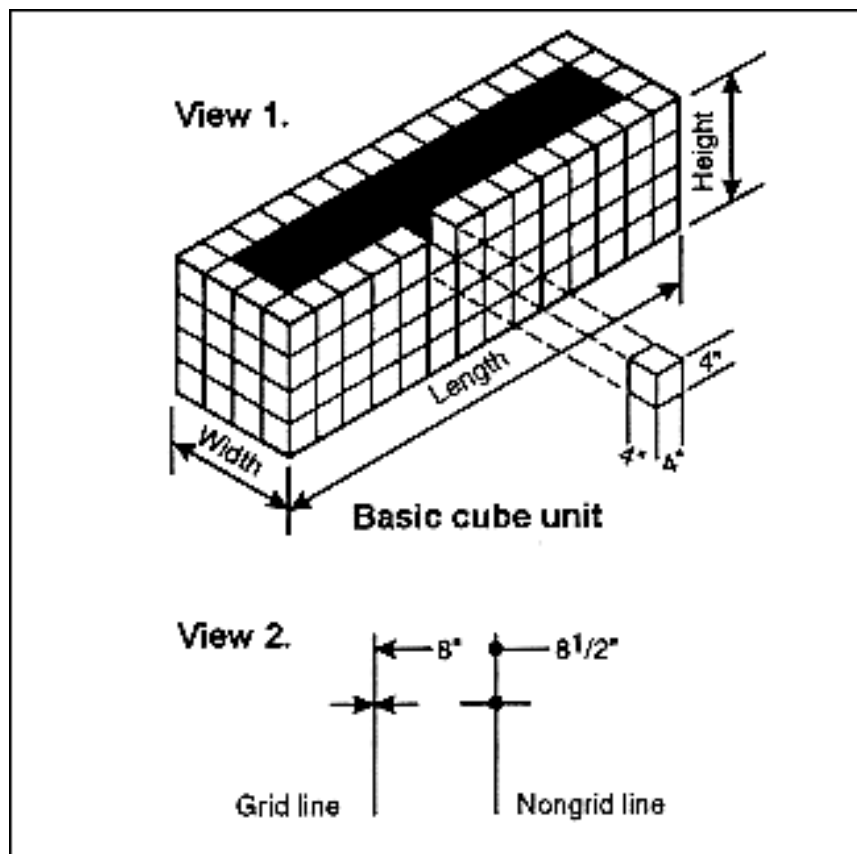

Figure 8-2. Elements of modular design
8-13. *Modular coordination* is when the design of a building, its components, and the building-material units all conform to a dimensional standard based on a modular system. *Modular measure* is the system of dimensional standards for buildings and building components that permit field assembly without cutting. The basic unit is a 4-inch cube that allows a building to be laid around a continuous three-dimensional rectangular grid having 4-inch spacing. The modular system of coordinated drawings is based on a standard 4-inch grid placed on the width, length, and height of a building, as shown in Figure 8-2.
Step 3. Show materials actual size, or to scale, and locate them on or related to a grid line by reference dimensions. Dimensions falling on grid lines are shown by arrows; those not falling on grid lines, by dots (see Figure 8-2 above).